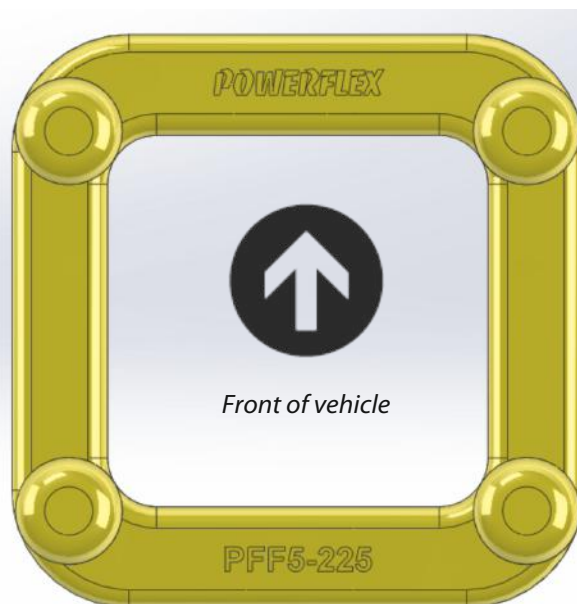

Figure 1: orientation of insert
4. Push the gearbox mount insert into the voiding in the rubber mounts. Ensure to orientate the insert so that the embossed logo and numbers are running across the car when the mount is in position (see Figure 1).